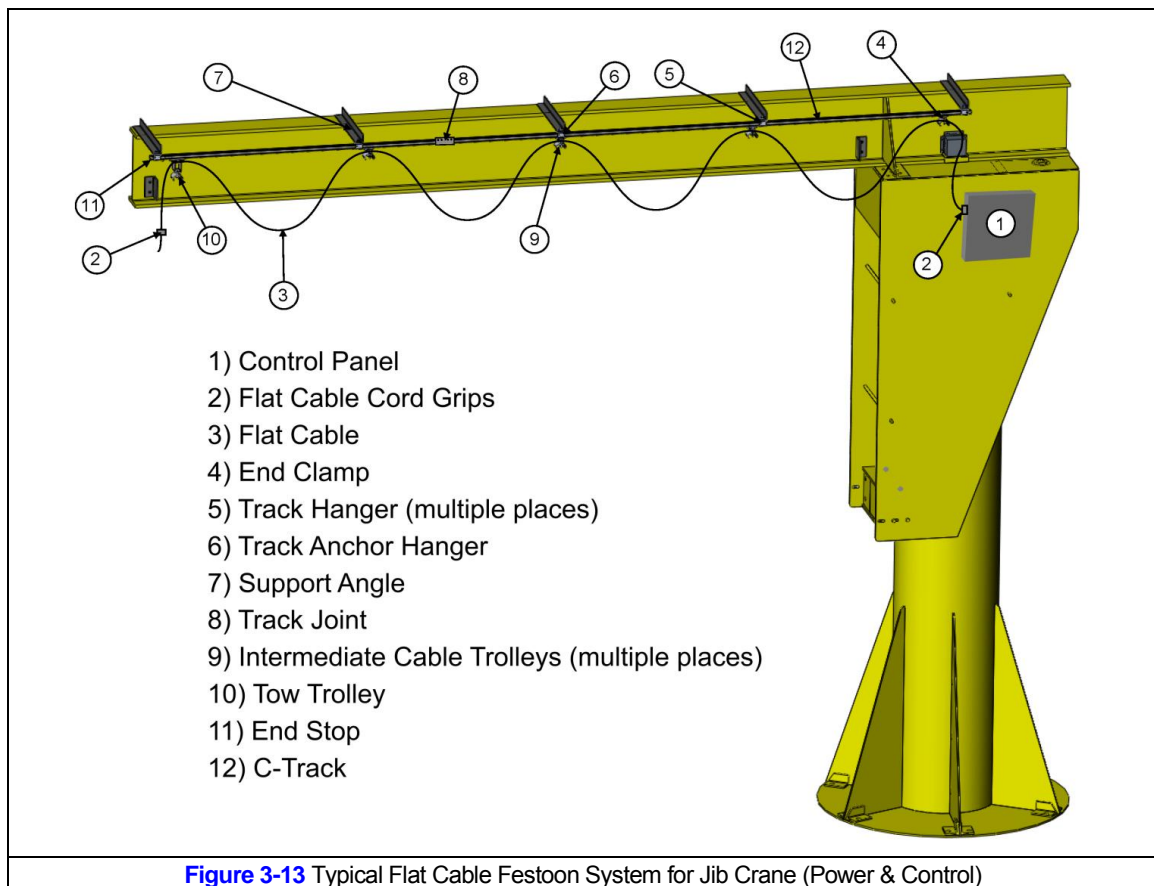

Figure 3-13 Typical Flat Cable Festoon System for Jib Crane (Power & Control)
- 3.7.2 Reference Figure 3-13.